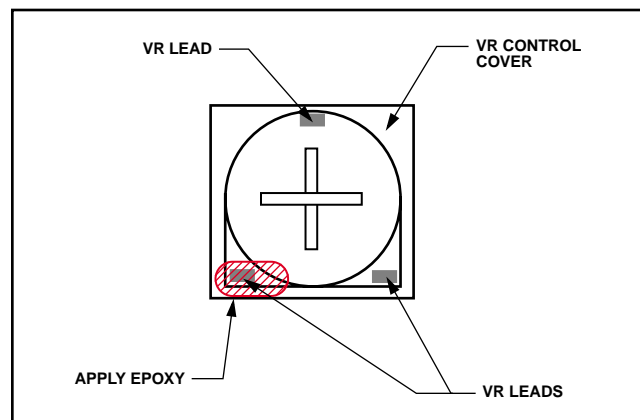

Figure 1
On the D board, replace RV833 (side B, zone B-12) and perform the following adjustment. (See Figure 1.)
14. After the adjustment, apply resin epoxy to RV833 only on the side with two leads. (See Figure 1.)